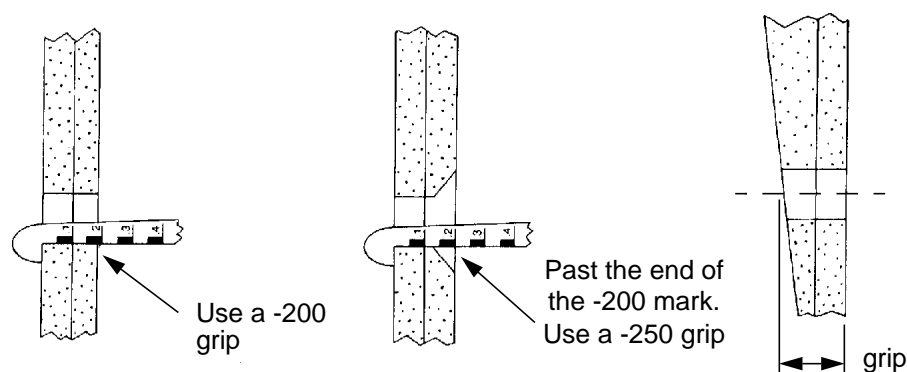

Figure 5 - Use of Grip Gauge
- 5.3.4 In order to verify that the grip length specified is correct, measure the combined material thickness, after final drilling, using a grip gauge (ref. para. 4.2.4) as shown in Figure 5. The fastener grip length specified on the product specification, shop order or assembly manual is only a reference length, and if the grip length determined by measurement does not agree with the specified grip length, use the measured grip length. Always read to the next higher number as shown in Figure 5 (i.e., if the reading is past the **end** of the -200 marking then use a -250 fastener). If a tapered sheet condition exists, use the grip length indicated for the thickest section.